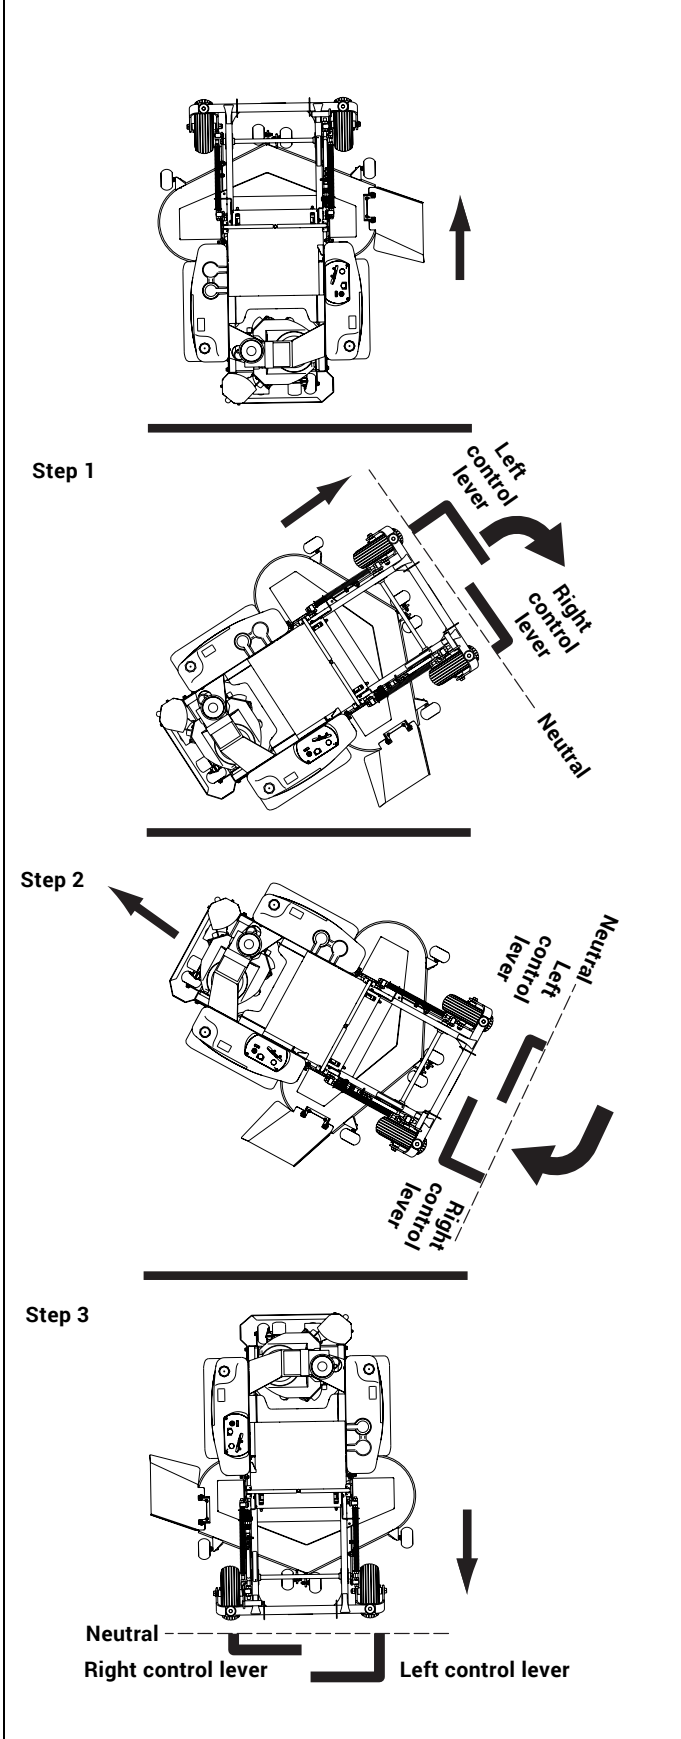

Figure 3-14
1. Move the left steering control lever farther forward from neutral than the right steering control lever and start the turn. Figure 3-14
2. Next, pull back on the steering control levers until they pass neutral and the machine starts to go rearward. Figure 3-14
3. Pull the right steering control lever farther rearward from neutral than the left steering control lever until the rear of the machine pivots around. Figure 3-14
4. Then, push the steering control levers forward until they both pass neutral and the machine starts to go forward. Figure 3-14
5. Push the left steering control lever farther forward from neutral than the right steering control lever and finish the turn. Figure 3-14